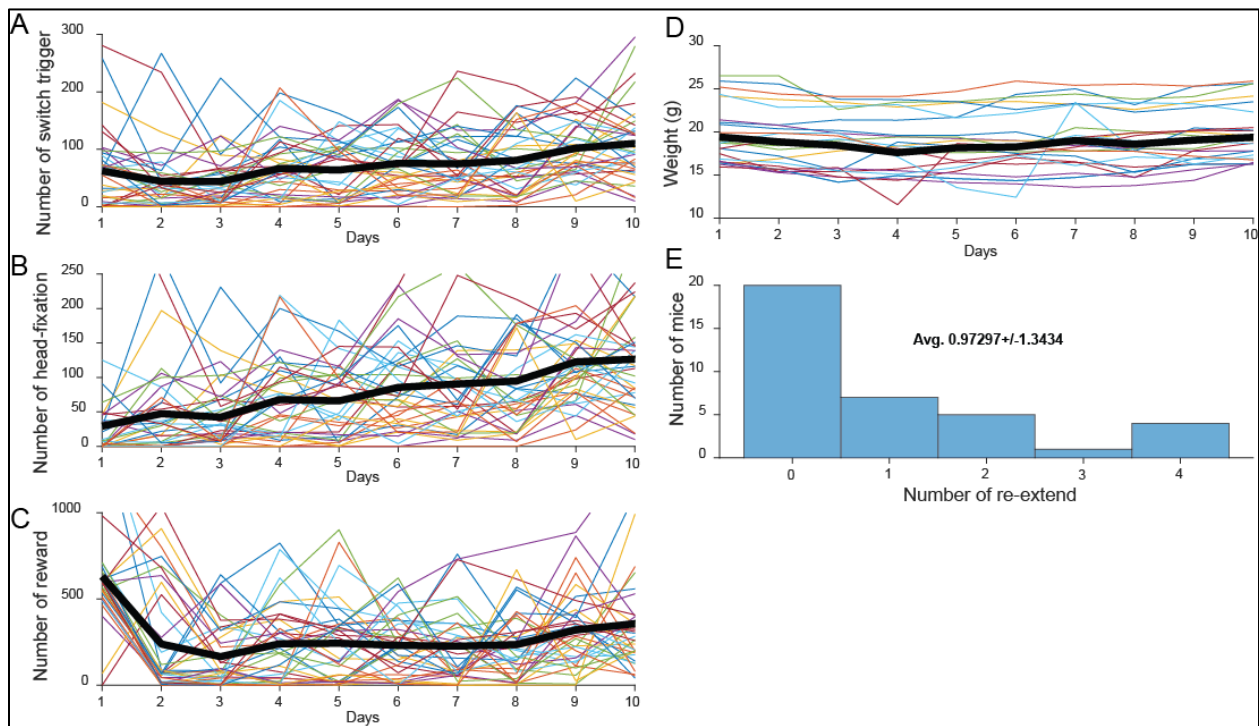

Fig.7
- Fig.7 shows example learning curve of number of switch trigger (A), number of head-fixation (B), number of reward (C), weight (D) and histogram of number of re-extend of lickport (E). These data are from ~35 example mice and only first 10 days are showed to illustrate the trend.